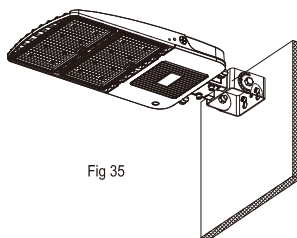

Fig 35
Step 6 .Use terminals in the junction box to connect the lamp input line to the mains. L to L(Black), N to N(White),PE to PE (Green); If need to connect dimming wires from the pole to fixture, please also use the connector to connect "Dim +"(Purple) to "Dim +"(purple), "Dim -"(Pink) to "Dim -"(pink), as shown in Fig. 35